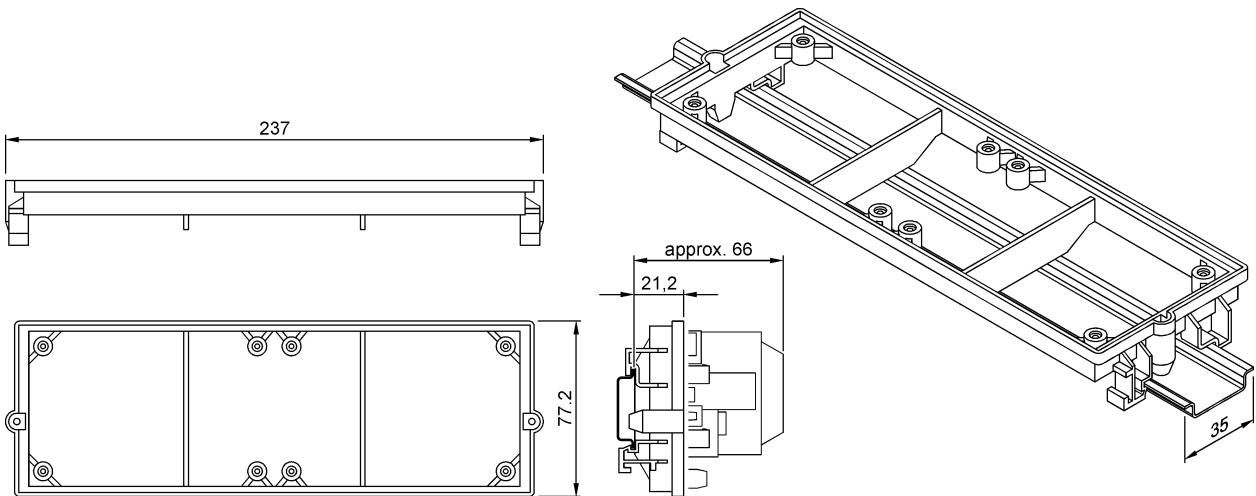

Figure 6: Design version with carrier for rail mounting
- on a carrier for rail mounting (refer to figure 6 on page 7)